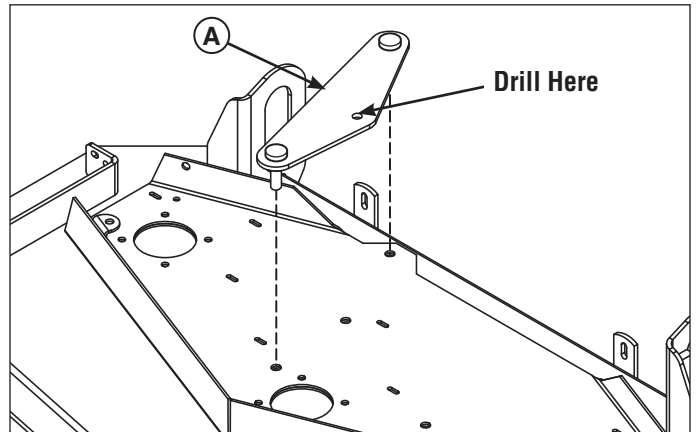

Figure 5. Drilling the New Hole for the Stationary Idler Pulley
1. Position the drill guide (A, Figure 5) on the mower deck as shown in Figure 5.
2. Using a 1/4" (0,635 cm) drill bit, drill a hole through the top of the mower deck in the drill guide hole as shown in Figure 5.